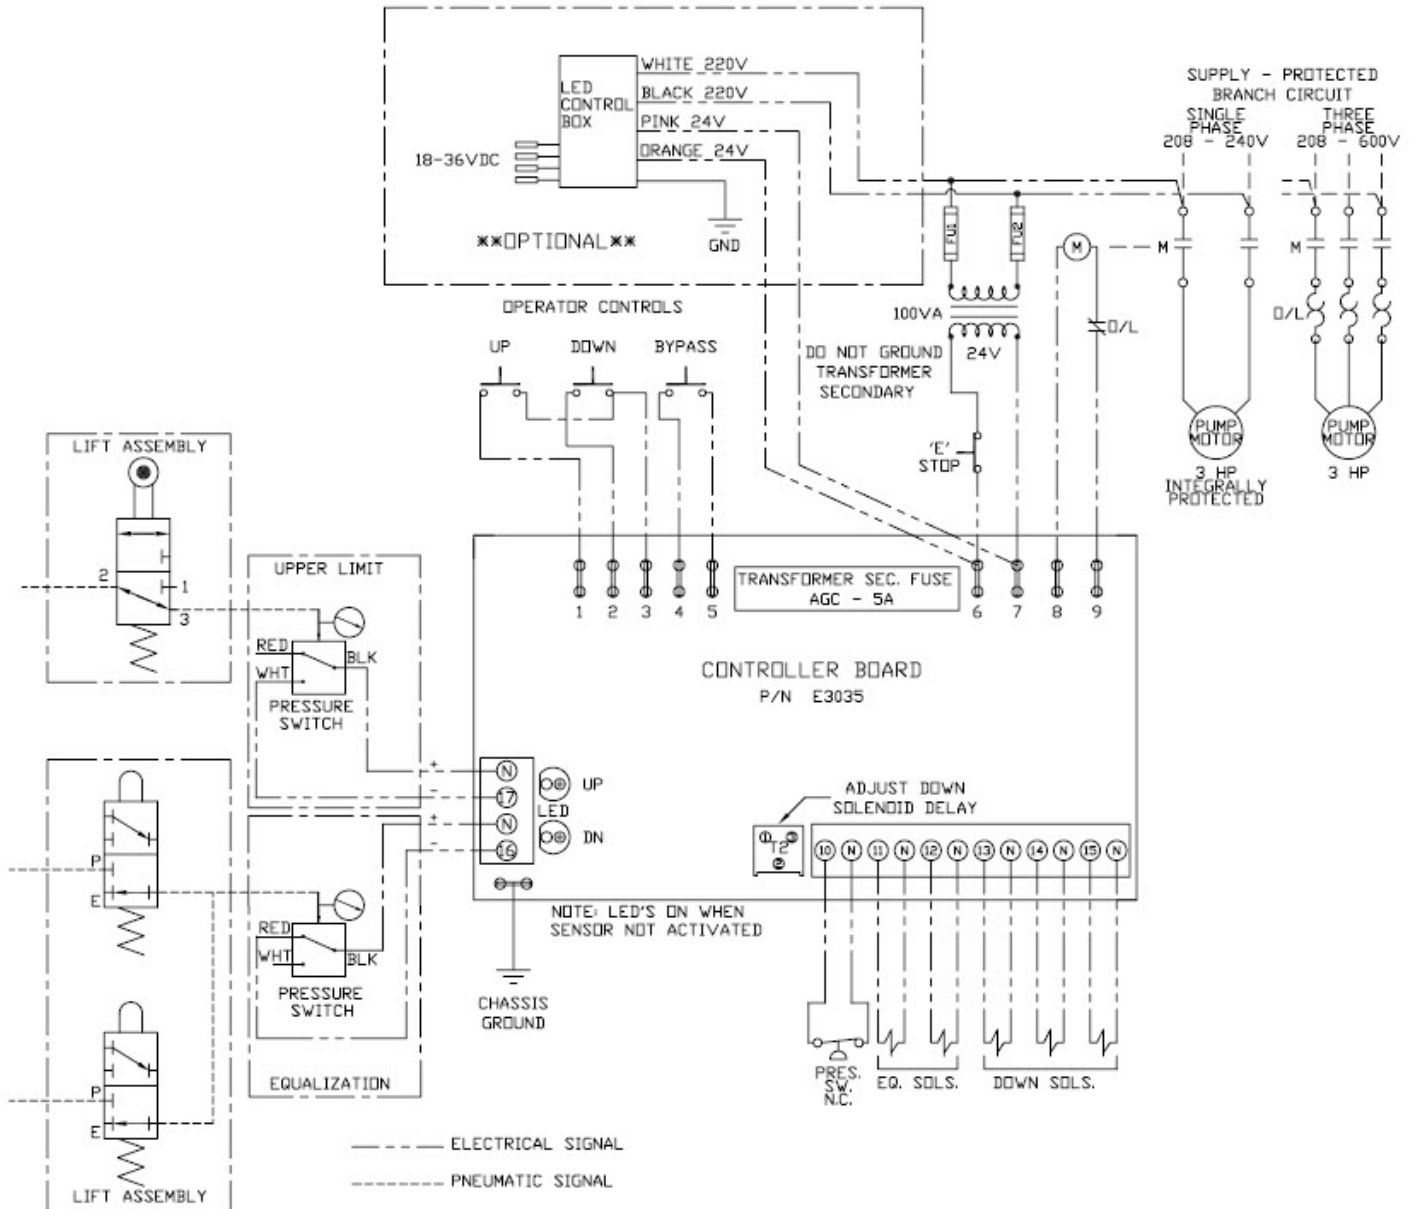

**Figure 10 – Pneumatic Switch Return Line Connections (Console)**
3. The two (2) equalizing pneumatic switch return lines, labeled “EQ. RETURN”, are connected to a union ‘Y’ fitting in the console (Figure 10).
4. The upper limit pneumatic switch return line, labeled “LMT RETURN”, is connected to the pressure switch fitting in the console (Figure 10).